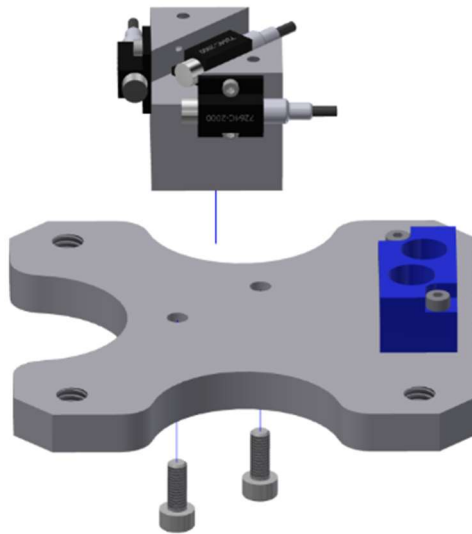

Figure 3-13. Head accel mount and sensor mounting plate
- 3.2.12 Remove the accel mount (SA572-S167) from the sensor mounting plate by removing two M3 X 0.5 X 8 LG. SHCS from the bottom of the sensor mounting plate (Figure 3-13).